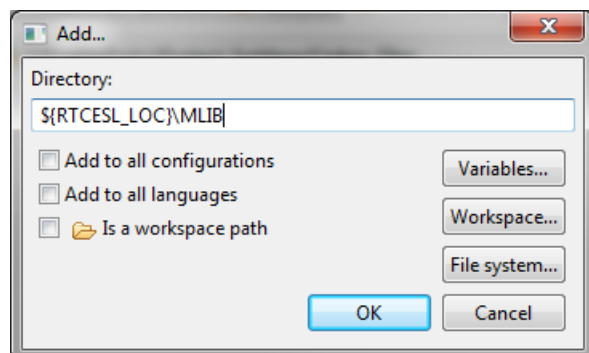

Figure 1-10. Library path inclusion
5. Look for the RTCESL_LOC variable by clicking Variables..., and then finish the path in the box by adding the following (see Figure 1-10): `${RTCESL_LOC}\MLIB`.